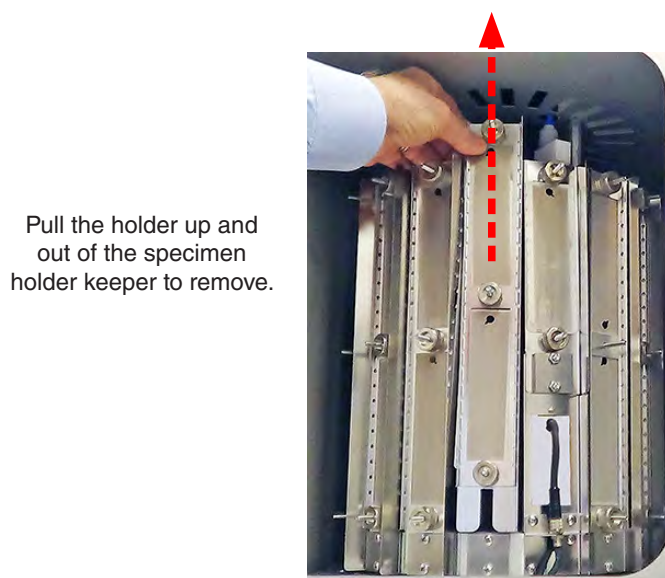

Figure 12.3b: Removing a specimen holder.
- Slide the holders up out of the holder to remove (Figure 12.3b)
- All sixteen (16) specimen holders must be mounted during a test for optimal air flow through the test chamber.